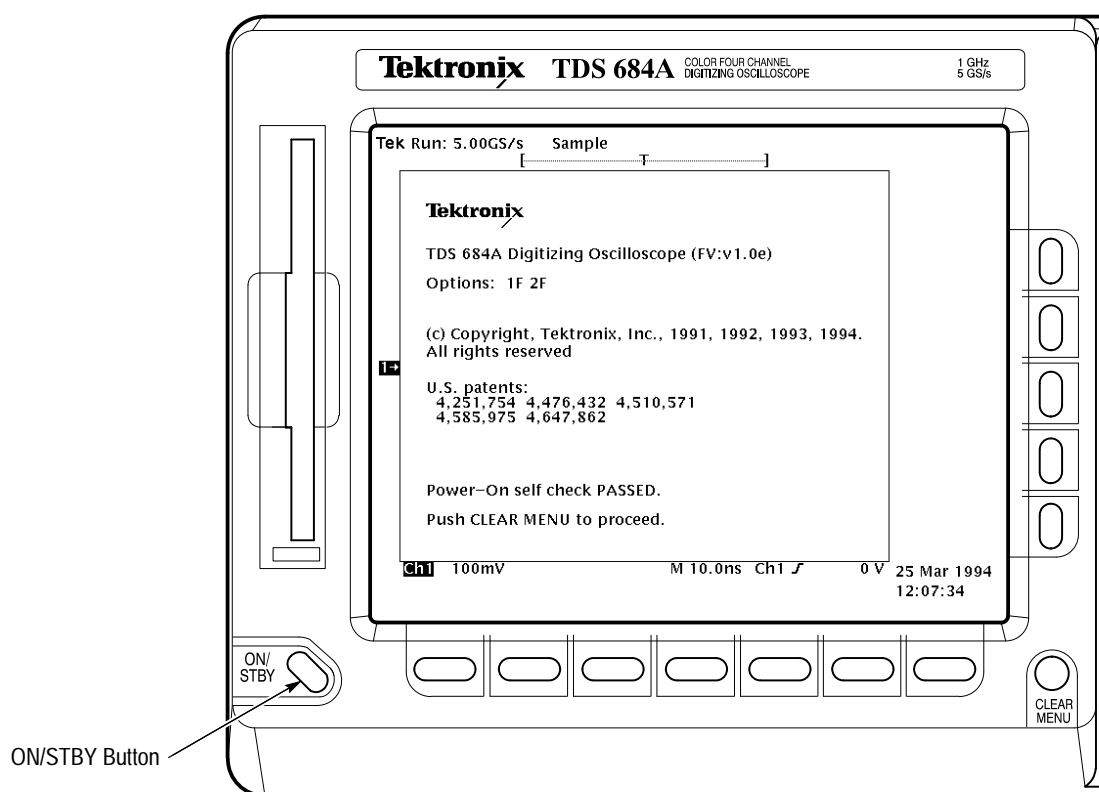

Figure 1-2: ON/STBY Button
2. If the oscilloscope is not powered on (the screen is blank), push the front-panel **ON/STBY** button to toggle it on (see Figure 1-2).